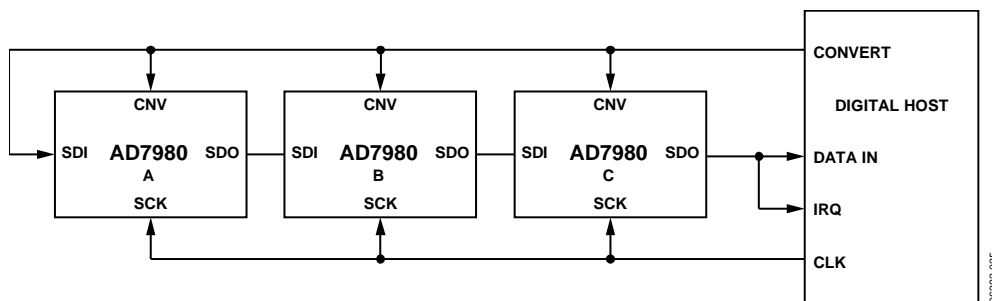
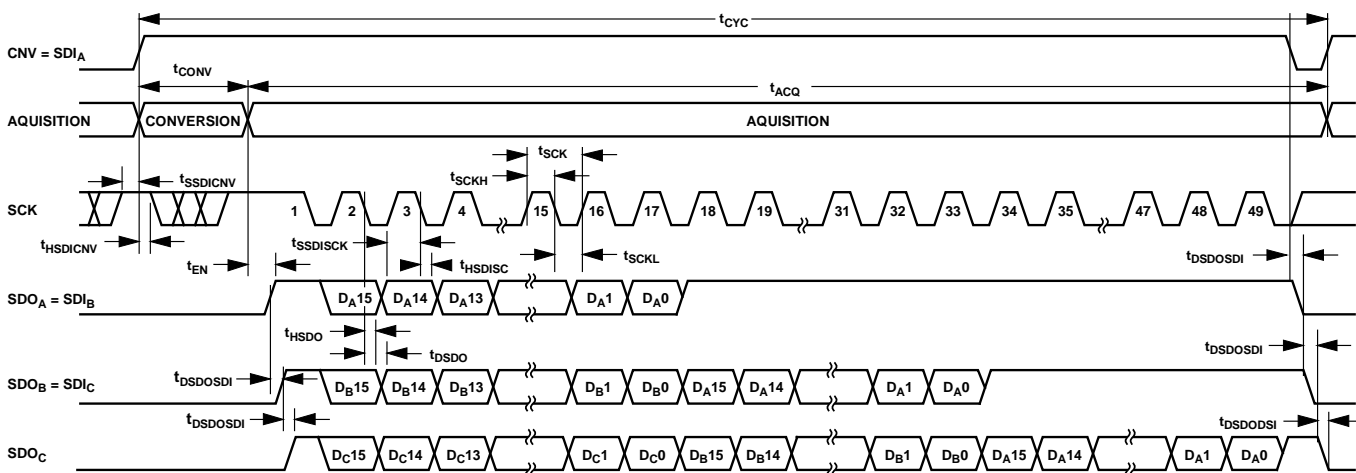

Figure 41. Chain Mode with Busy Indicator Connection Diagram
Figure 42. Chain Mode with Busy Indicator Serial Interface Timing
- In the chain mode if SCK is high during the CNV rising edge (see Figure 42).
A connection diagram example using three AD7980s is shown in Figure 41, and the corresponding timing is given in Figure 42.
When SDI and CNV are low, SDO is driven low. With SCK high, a rising edge on CNV initiates a conversion, selects the chain mode, and enables the busy indicator feature. In this mode, CNV is held high during the conversion phase and the subsequent data readback. When all ADCs in the chain have completed their conversions, the SDO pin of the ADC closest to the digital host (see the AD7980 ADC labeled C in Figure 41) is driven high. This transition on SDO can be used as a busy indicator to trigger the data readback controlled by the digital host. The AD7980 then enters the acquisition phase and powers down. The data bits stored in the internal shift register are clocked out, MSB first, by subsequent SCK falling edges. For each ADC, SDI feeds the input of the internal shift register and is clocked by the SCK falling edge. Each ADC in the chain outputs its data MSB first, and  $16 \times N + 1$  clocks are required to readback the N ADCs. Although the rising edge can be used to capture the data, a digital host using the SCK falling edge allows a faster reading rate and, consequently, more AD7980s in the chain, provided the digital host has an acceptable hold time.